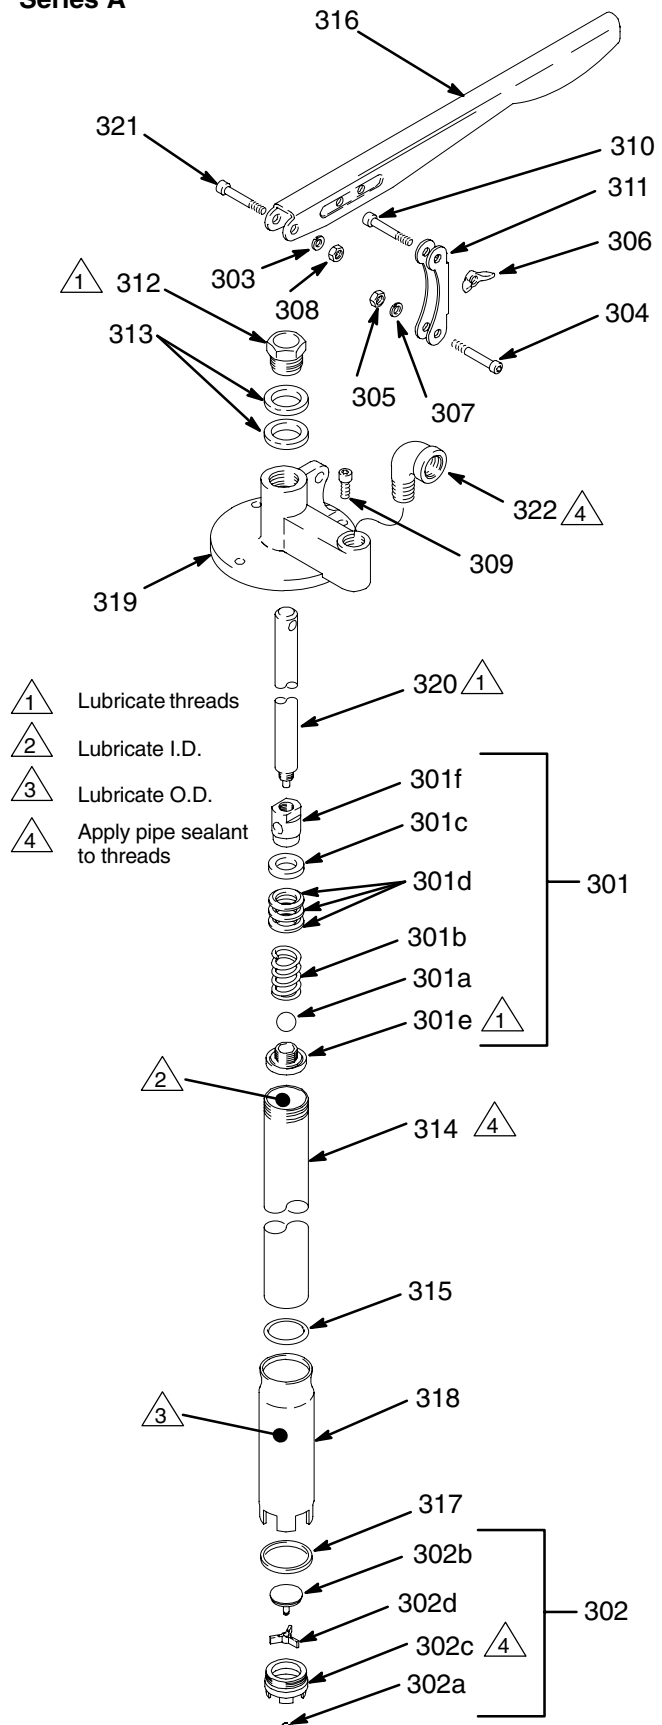

Fig. 3
2. Slide the extension (318) up the riser tube (314) to expose the intake valve (302).
3. Unscrew the intake valve (302) from the riser tube (314). Disassemble the intake valve and clean and inspect the parts. Replace worn or damaged parts.
4. Unscrew the riser tube (314) from the outlet housing (319).
5. Pull the riser tube down off the connecting rod (320) and piston (301).
6. Unscrew the piston (301) from the connecting rod (320). Disassemble the piston and clean and inspect the parts. Replace worn or damaged parts.
7. Loosen the packing nut (312).
8. Disconnect the rod (320) from the pump lever (316). Pull the connecting rod down out of the outlet housing (319).
9. Unscrew the packing nut (312) and remove the packings (313). Clean and inspect the parts. Replace worn or damaged parts.
10. Reassemble the pump in the reverse order, following the lubrication and sealant notes in Fig. 3. Tighten the packing nut (312) just enough to stop leakage.
See **Parts Drawing** in Fig. 3.